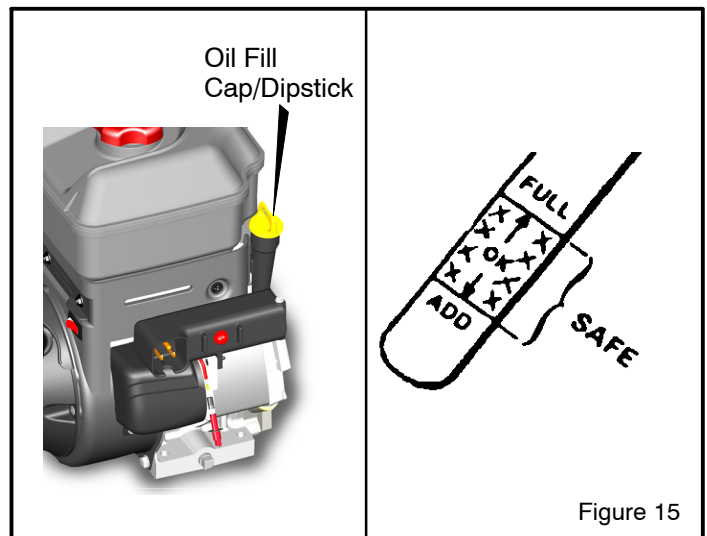

Figure 15
2. Remove the oil fill cap/dipstick and wipe with a clean cloth (see Figure 15).
5. If necessary, add oil until the oil reaches the FULL mark on the oil fill/cap dipstick (see Figure 15). Do not add too much oil.